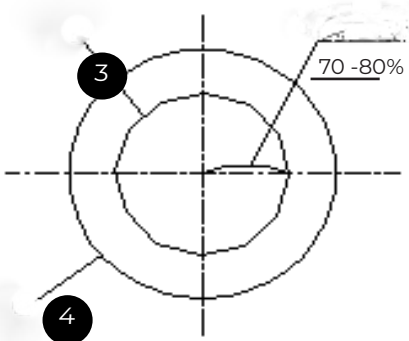

Fig. 12
4. If necessary, you can remove the eyepiece to observe from the eyetube. Adjust the condenser diaphragm until you obtain an image similar to Figure 12, Inner ring 3 is the image of the aperture diaphragm, 4 is the outside edge of the objective.